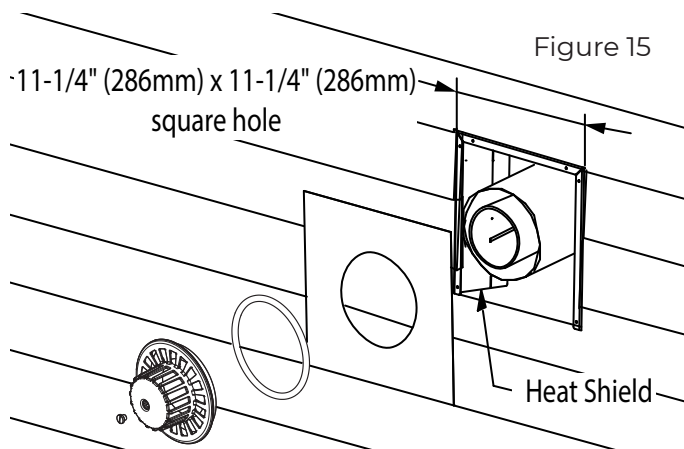

Figure 15
- (B) vent pipe
- (C) vent-air intake pipe
- (D) rod
- The hole at the outside of the wall must be a square of 11-1/4" (286 mm) X 11-1/4" (286 mm) (see figure 15).
- From the outside of the wall, screw the rod (D) slightly onto support located inside the appliance flue outlet.
- Wrap the vent-air intake pipe (C) with the provided insulation (i) (foil side out) and place the provided strip of tape (H) down the seam to secure it.
- Slide the smaller vent pipe (B) (from outside your house) through the hole in the wall and attach to the mounted heater inside your house. Be sure the vent pipe is snug and engaged to the heater. Then slide the larger Vent-Air Intake Pipe, with the insulation wrapped and taped to the outside of the pipe, through the same hole and over the smaller Vent Pipe (B) and attach to the heater.
- Slide the vent cap (A) into position and secure into place using the provided nut (E). Tighten
nut (E) down until the vent cap (A) leans against the outdoor mounting plate (F) (see figures 15 and 16).